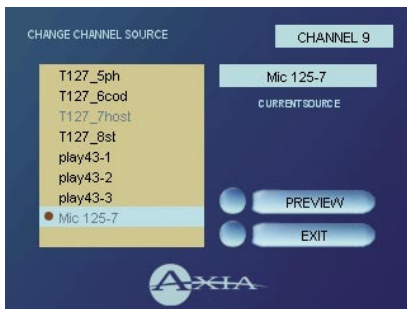

Figure 4-3: Source Selection menu screen.
- **Source** allows the operator to choose a new source to assign to the selected channel. Pressing the upper left Soft Key (marked **SOURCE**) will cause the right-hand screen to display the Source Selection menu (Figure 4-3).